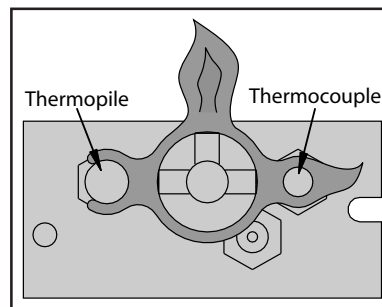
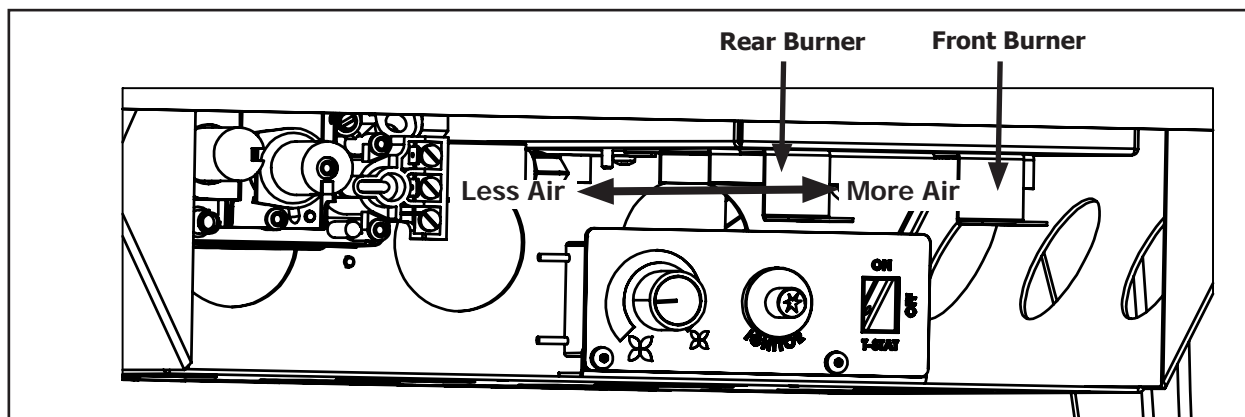
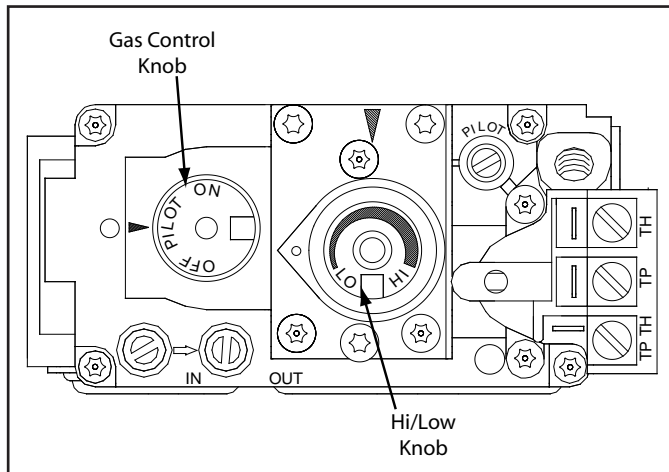

Figure 3. Pilot Flame
Figure 4. Air shutter adjustment lever.
Figure 5. Gas Valve Controls
1. Turn off the gas to the fireplace. **If not recently done, remove the glass and let the unit air out for at least five (5) minutes to clear out any gas.** Turn on gas to the heater.
2. Start the pilot by pressing the gas control knob (Figure 5) and turning it to PILOT. While pushing the gas control knob in, press the piezo ignitor several times until the pilot light starts. Hold the gas control knob in for 30 seconds. Check that the pilot has fully engulfed the thermocouple assembly (see Figure 3).
Behind the valve access door is the air shutter adjustment levers on the right hand side of the venturi box (see Figure 4) above the control panel. The air shutters allow the amount of air coming into the fireplace to be adjusted in order to accommodate different climates and venting arrangements. The left shutter adjusts the rear burner and the right shutter adjusts the front burner. Start the pilot and then the burner. Make sure the pilot flame is burning normally and none of the burner ports are plugged. Let the fireplace burn for roughly fifteen minutes and then examine the flames, compare the flames to Figure 44, page 35.
The S40 gas valve and control panel (Figures 5 & 6) are located behind the valve access door at the front of the stove (Figure 4). To light the burner correctly follow the steps below: